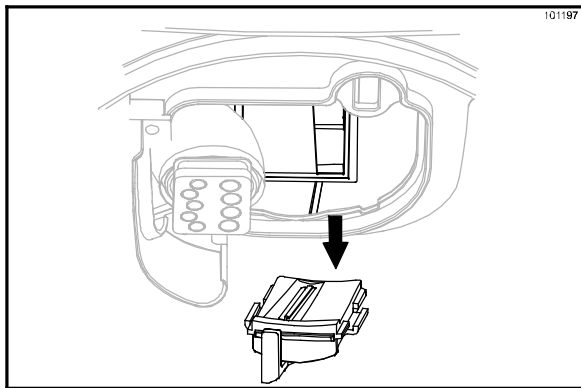

Figure 187
11. Remove the old ice shaver blade by pushing the blade forward toward the opening in the ice shaver assembly. The blade will drop down for removal. (See Figure 187.)